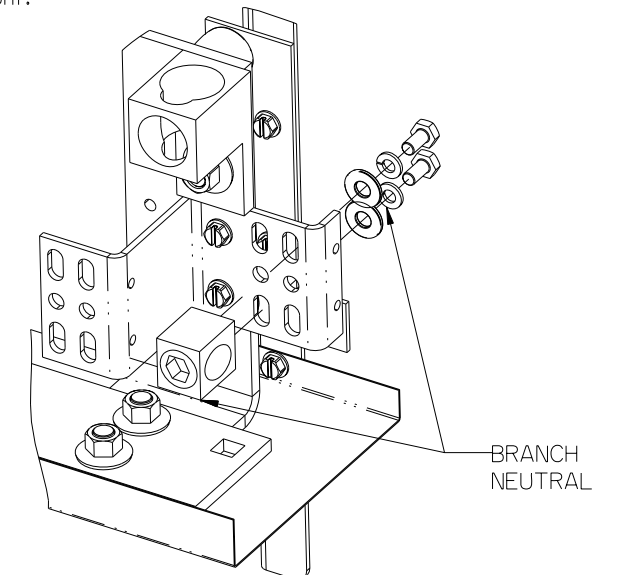

Figure 8
9. Reference fig. 8 - Installing the Branch Neutral Lug (item 11) in a panelboard. The Branch Neutral is located at the bottom of the "Z-rails", or mirrored at the top depending upon the feed cable location. Two types of Neutral lug assemblies are included in the kit, be sure to install the kind pictured below. The Neutral Lug assemblies can be mounted, as shown, on either side of the Branch Neutral depending on cable feed location. Torque all hardware as specified on the rear of the dead front.